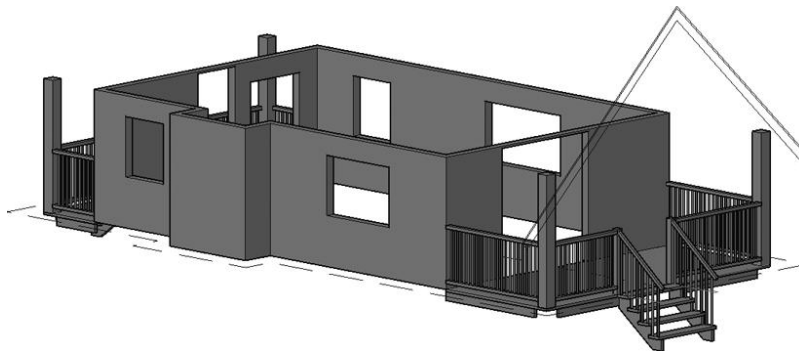

FIGURE 16.75: Eastern edge of the 3D model after aligning the roof polylines to the model
- Zoom out so that the entire eastern side of your cabin is viewable. Your model should look like Figure 16.75.